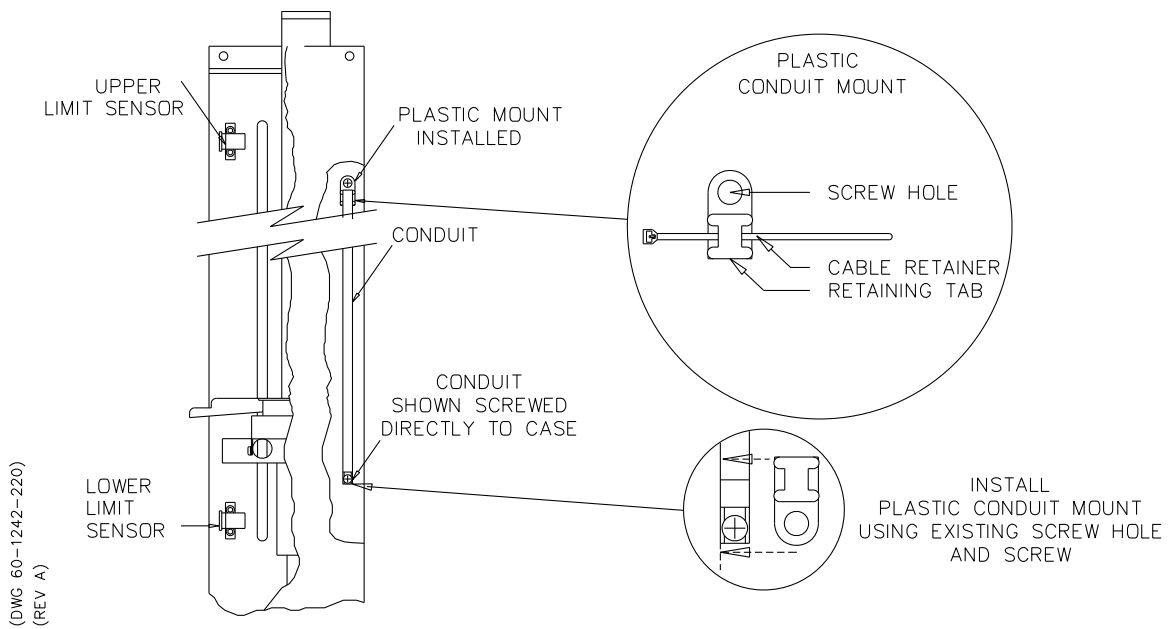

Figure 9-39 *Installing the plastic mounts*
- b. Then use the same screws and holes to install the mounts. Be sure the tab portion of the mount is facing away from the sensors, as shown in Figure 9-39, (the screw aperture is closest to the sensors).